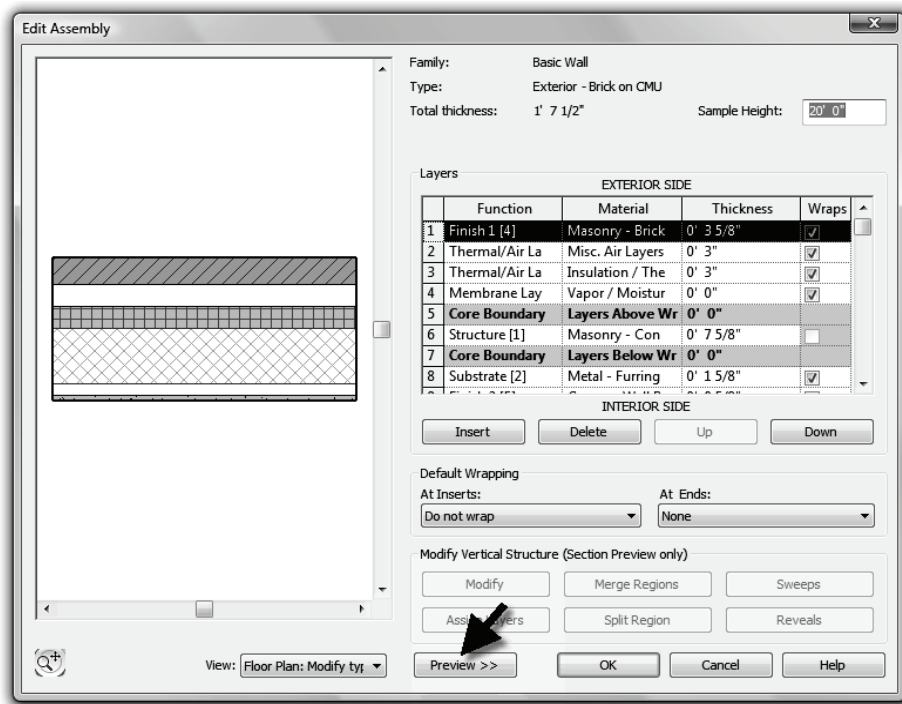

FIGURE 3-2.5 Edit Assembly
7. Finally, you are in the *Edit Assembly* dialog box. This is where you can modify existing wall types or create new ones. Click **<<Preview** to display a preview of the selected wall type. (Figure 3-2.5)
Things to notice in the *Edit Assembly* dialog box (Figure 3-2.5):